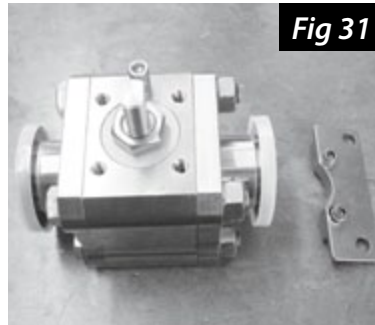

Fig 31
a. Position the lock plate on the same side of the valve as the valve body bolt nuts and secure the plate to the valve using the 3/16" hex key and the two socket head screws that were previously removed (Fig 31 & 32).